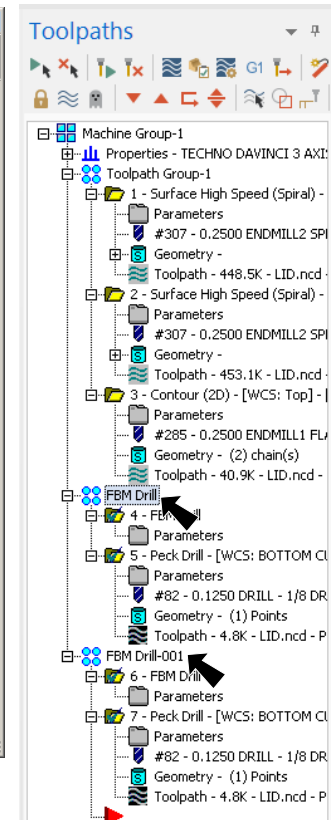

Fig. 107
Step 3. In the Toolpaths Manager **Ctrl** click both **FBM Drill Toolpath Groups** to select both Toolpath groups, Fig. 107.